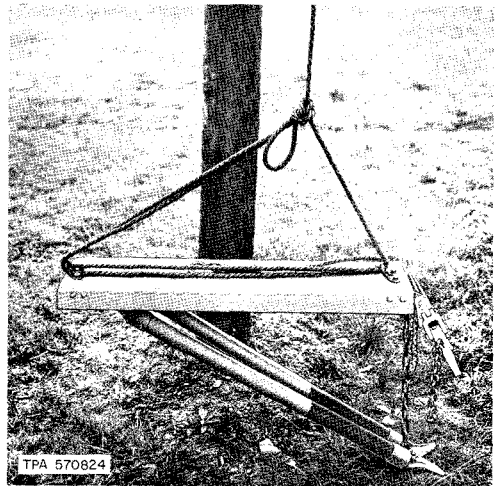

Fig. 8—Attaching Platform to Handline
- (1) Attach a splicer's aerial handline, a B Aerial Handline, or a 3/8-inch or 1/2-inch manila rope at the balance point of the platform using a bowline as shown in Fig. 8.
- (2) Pass the free end of the rope over the strand, or fasten the handline hook to the strand and raise the platform. When the platform is at the desired height, lock the B Aerial Handline or tie the free end of the rope to the pole. In the case of a stepped pole, tie the rope to the pole step on the opposite side of the pole from the platform.